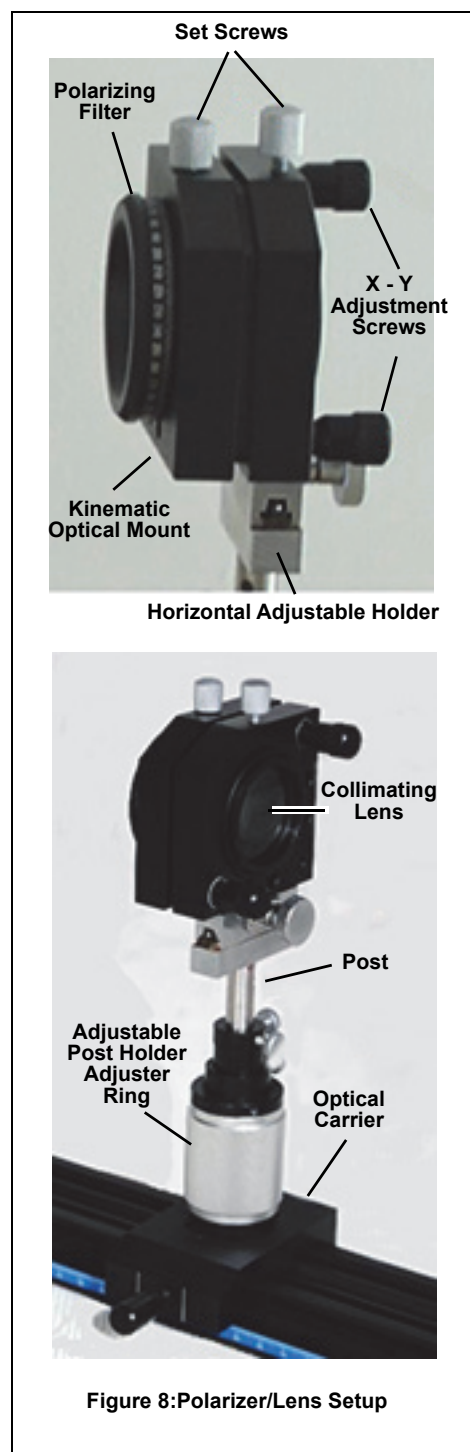

Figure 8: Polarizer/Lens Setup
4. Attach the optical carrier of the polarizer/lens assembly to the track so that the collimating lens faces the electromagnet (see Figure 8).